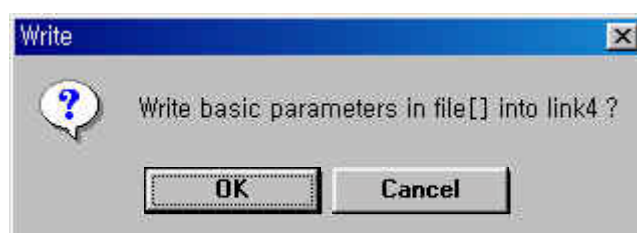

Fig. 8.12 Writing confirmation
- ⑥ If basic parameter writing is selected, the dialog box that confirms the operation cancel of Cnet module as shown in Figure 8.12. At this time, select OK to download the basic parameter to Cnet module.